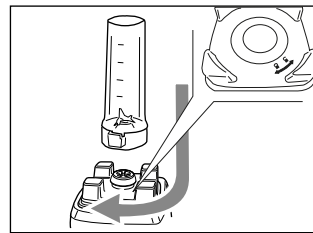

Fig. 7
- Overturn the container (N) and position it on the motor body (E) properly by rotating it slightly until it locks in place (Fig. 7).
- After use, unplug the appliance and wait for the blades to stop before removing the container (N) from the motor body (E).
- Overturn the container (N) again and place it on a flat surface. To open the container, unscrew the blade set (P).